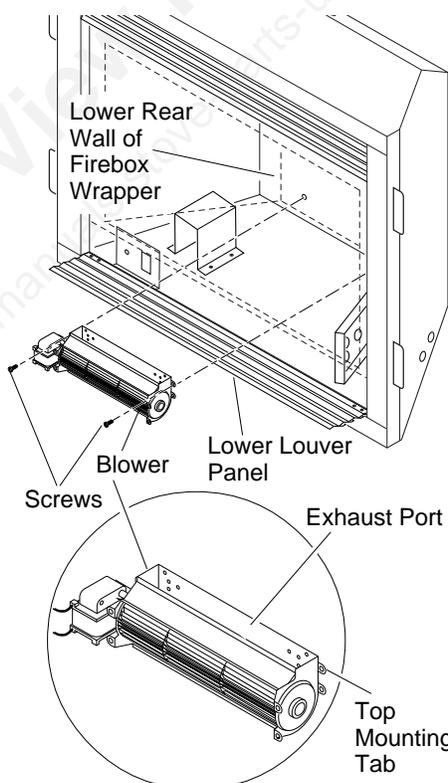

Figure 31 - Mounting Blower to Firebox
IMPORTANT: For clarity, gas valve assembly and grate/burner assembly are not shown in Figures 31 through 33. They will, however, be in your fireplace when you are installing the blower. Also for clarity the firebox is shown with dotted lines.
2. Place the blower against the lower rear wall of firebox outer wrapper with the exhaust port directed upward. Align the holes in the top mounting tabs of blower with holes in wall of wrapper (see Figure 31). Using the two screws provided, mount blower and tighten screws securely.